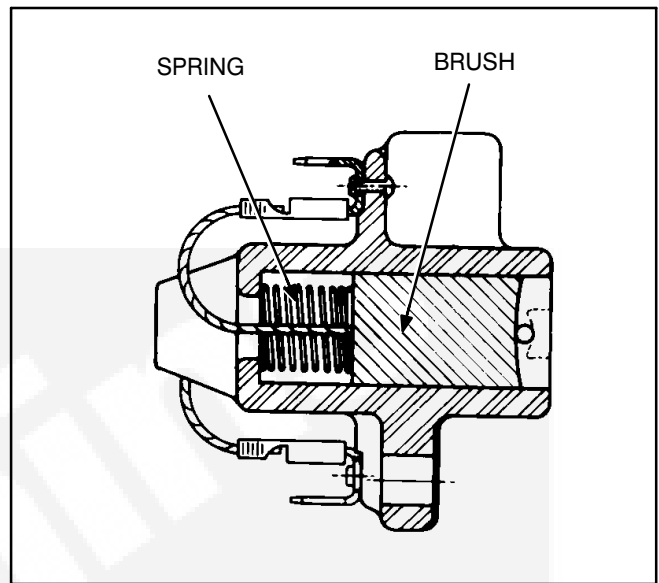

FIGURE 9-9. BRUSH REPLACEMENT
2. Remove brushes and springs from holder and replace with new parts (see Figure 9-9).